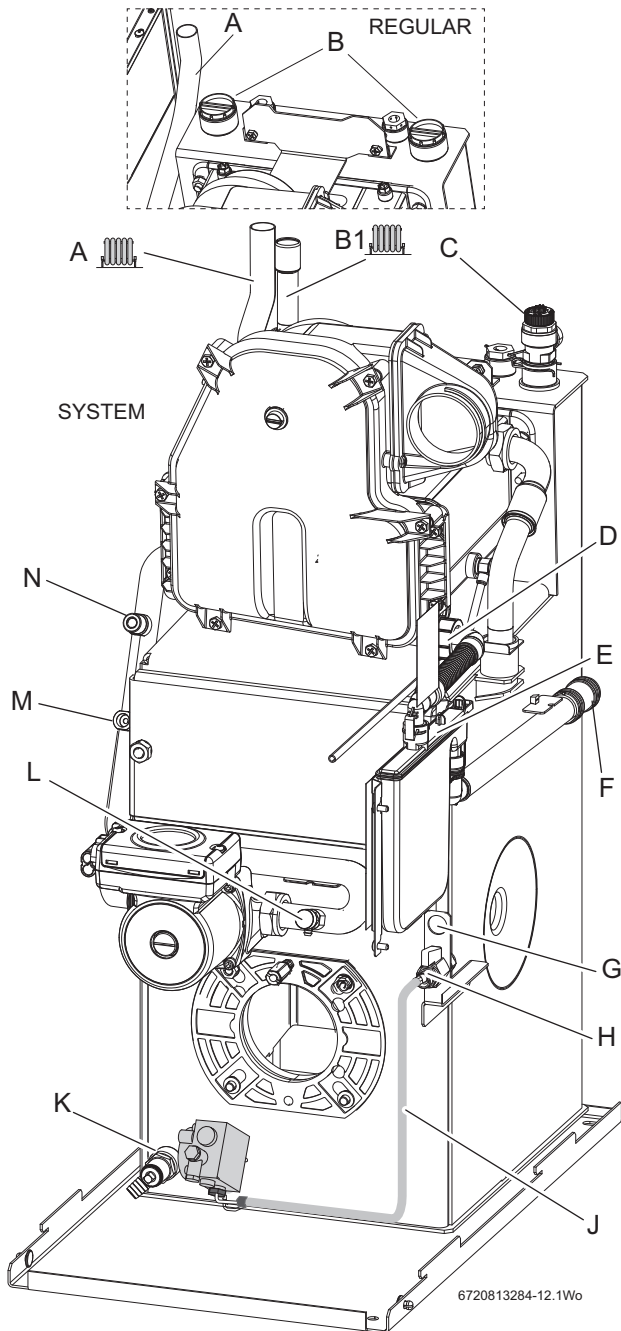

Fig. 46 Pipework connections
- ▶ Refer to figure 46 and ensure that the isolating valve (H) is closed and route the oil supply pipe along the right side of the boiler and connect to the isolating valve (H).
1. Check the inlet pipe connection (1).
- ▶ Unscrew return plug (2).
- ▶ Screw in by-pass screw (3) which is attached to the oil pump.
2. Connect the flexible oil pipe return hose (not supplied) to the oil pump and return pipe fixing and tighten to secure (for routing see figure 46).